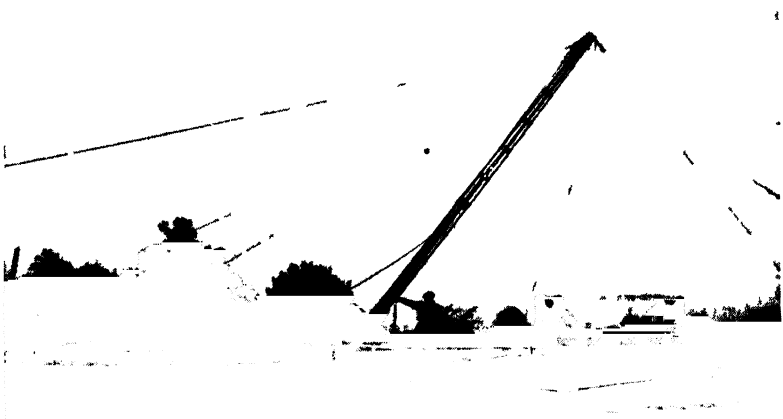

FIG. 18-32 Raising gin pole for first lift. The built-up gin pole is 30 ft long and is held in place by six guys. (Courtesy Indiana Electric Corp.)
c. *Section Method.* A third method of erecting transmission towers is that of erecting by sections. In this method, flat parts or sides of sections are bolted together on the ground, then hoisted into position, and bolted in place. Figures 18-32 to 18-44 show the steps in the process. The tower erected in the photographs is 80 ft high, weighs about 8,000 lb, consists of 166 pieces, and is held together with 743 bolts. The spacing of the towers on the line is 800 ft. Each tower carries six No. 0000 copper conductors and one galvanized ground wire. The voltage of the line is 132,000 volts.